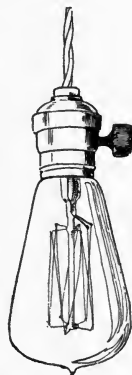

FIG. 45. Direct light.
89. Carbon Lamps. Few carbon lamps are being made now, but they may still be obtained in some stores. The carbon lamp can be distinguished from Mazda lamps (Fig. 45) by the appearance of the filament. The carbon lamp gives about 0.40 candles of light per watt of electricity consumed. Carbon lamps burn, making a yellow or reddish light, and consume fully twice as much current as Mazda lamps of the same candle power.
Direct lighting means that the rays from the lamp go directly into the room (Fig. 45). Indirect lighting means that the rays are all directed toward a reflecting surface such as the